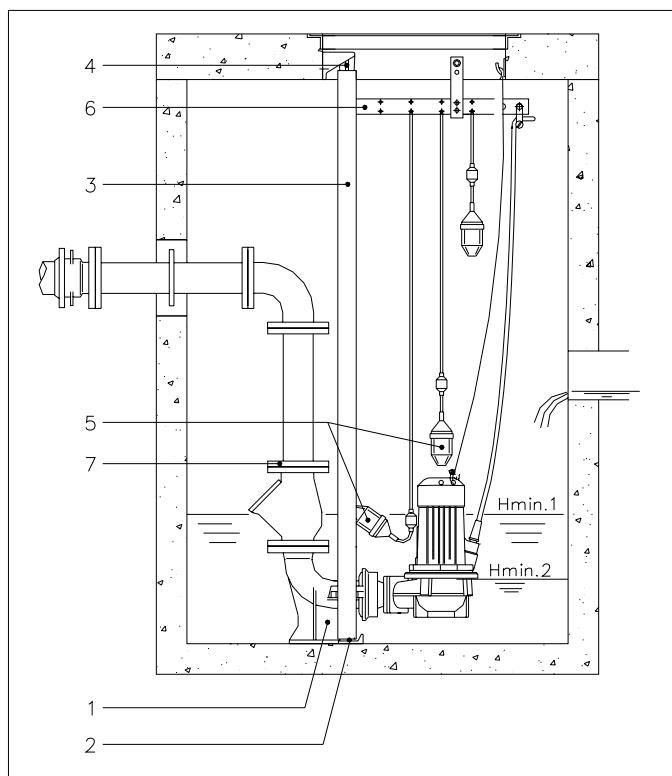

Fig. 6.3
- Check that the motor is adequately cooled. The motorhousing should be at least 2/3 submerged for continuous operation at full load (see Hmin.1 Fig. 6.3).
It is good practice, whenever possible to keep the motorhousing completely under water. For interrupted level controlled operation, less cooling is required. We recommend not to run the pump with the water level below the top of the volute in order to avoid air being drawn in (see Hmin.2 Fig. 6.3). Air in the discharge pipes might impair performance.